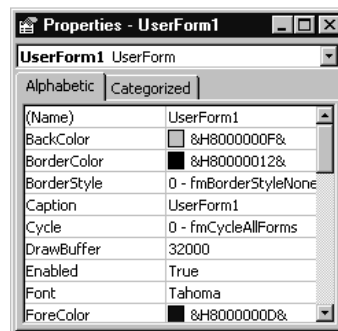
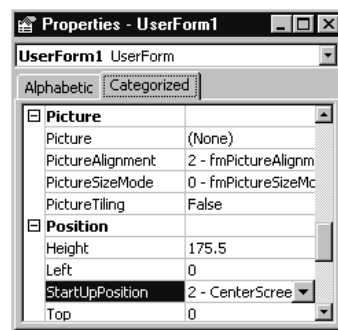

Figure 1.5 Properties window Alphabetic tab
Figure 1.6 Properties window Categorized tab
2. The Properties window appears, with property names listed in the left column and their settings listed in the right column. Select the appropriate tab to list the properties in this window alphabetically, as shown in Figure 1.5, or categorically, as shown in Figure 1.6. The list of properties belongs to the object named in the list box at the top (the active object), which is followed by the class the object belongs to.